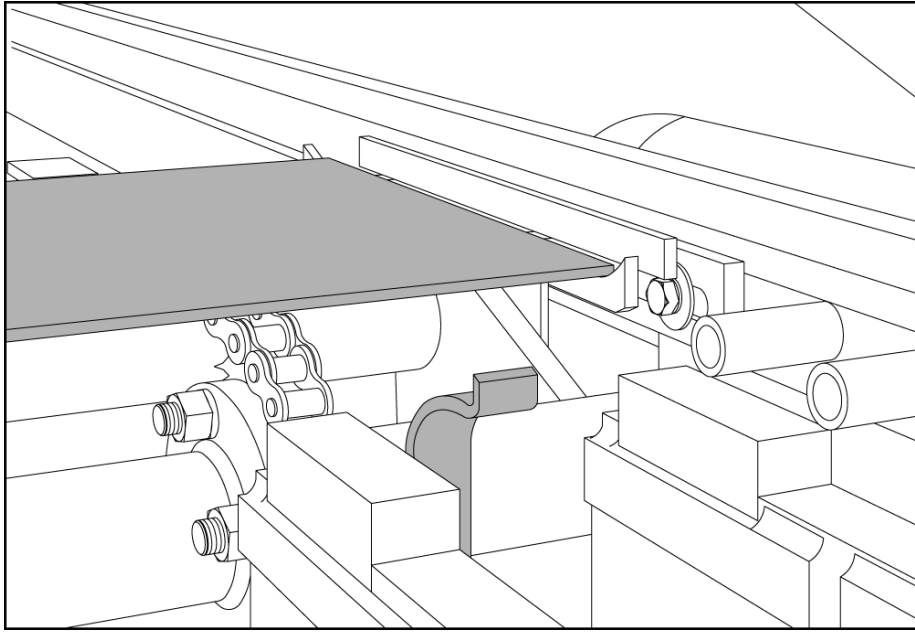

Figure 6.13 PALLET PICK-UP POINT
- 6.2.7 Locate top of pallet spring stops even with top of pallet resting on the chains (see figure 6.13).